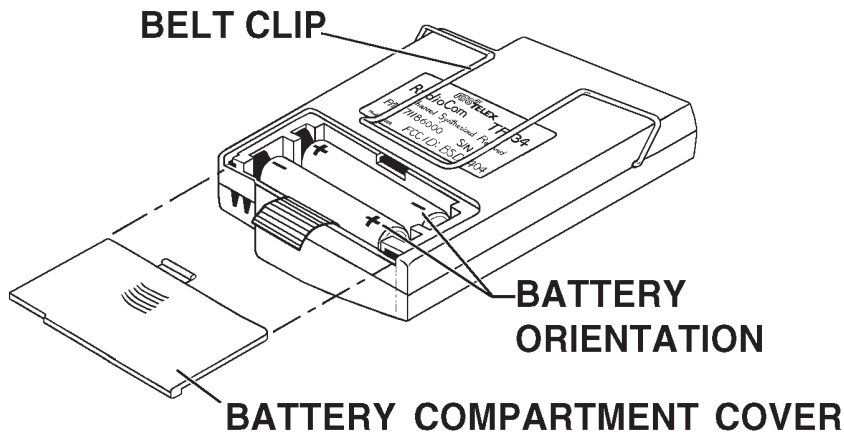

Figure 9
The TR-34 Receiver uses two (2) AA batteries. When the batteries are low the sound will be distorted. Replace weak batteries with two fresh AA batteries, and position them in the battery compartment as illustrated in Figure 9.